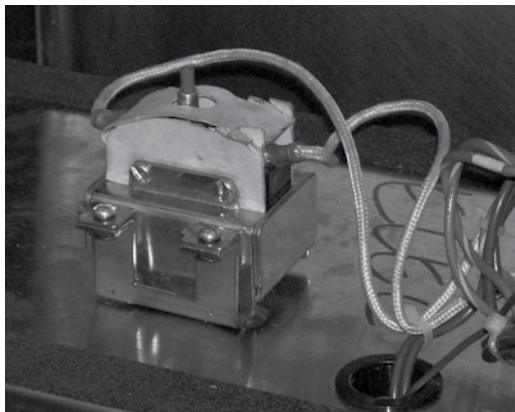

Fig. 3
- b) Push the reset button located on the high limit thermostat. (See Fig. 3)
- b) Remove the two screws which secure the high limit thermostat to mounting bracket. (See Fig. 3)